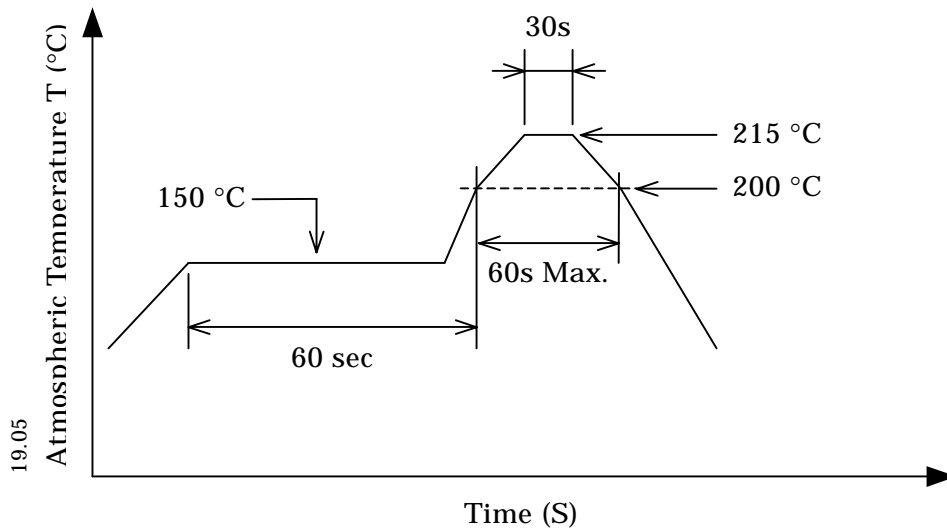

Fig. 5-1 Temperature Profile
- (1) The recommended solvent is Florinarto FC-70 or equivalent.
- (2) The atmospheric temperature should be 215 °C, within 30 seconds or 200 °C, within 60 seconds.
- (3) **Fig. 5-1** shows an example of the recommended temperature profile at V.P.S.